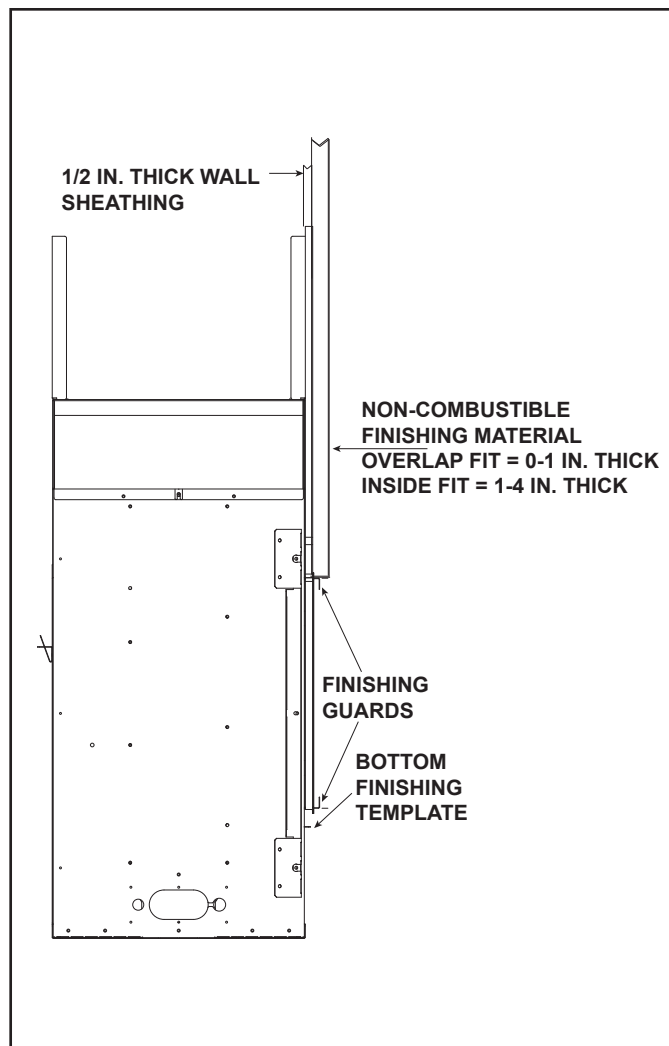
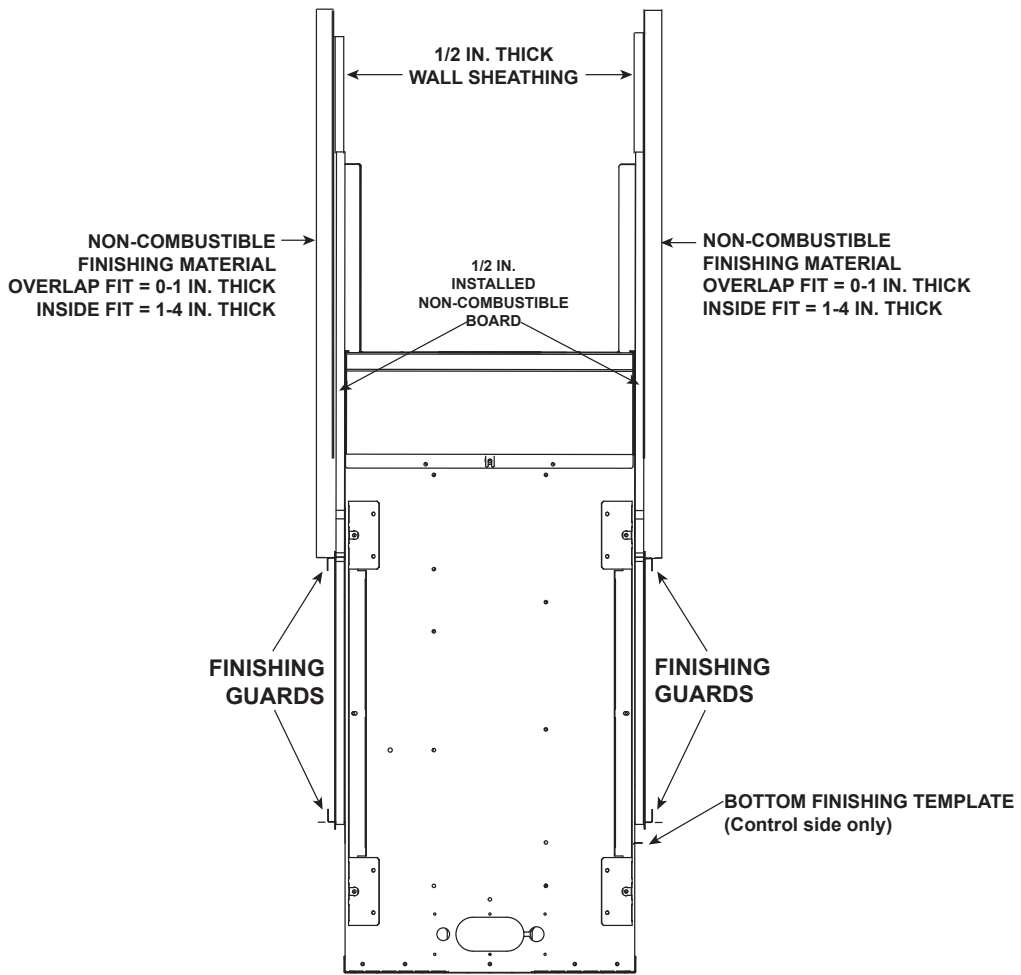

Figure 10.2 Finishing and Facing Materials - Single-Sided Models
Figure 10.3 Finishing Materials - See-Through Models
Decorative facing material thickness is measured from the face of the installed non-combustible board. See Figure 10.2 and Figure 10.3.
The fronts for this appliance are compatible with non-combustible materials. See Figure 10.2 and Figure 10.3.
Installation of finishing materials can be accomplished by either the “overlap” or “inside-fit” method, depending on what type of decorative barrier front is to be installed. See Figure 10.2 and 10.3. Overlap fit decorative barrier fronts include the Four Square and Illusion. The Clean Face Trim Front (CFT) can be either an inside fit or an overlap fit. See Table 1.
1. Remove bottom finishing template from bottom access panel. Verify that factory-installed finishing guards are installed to ensure finishing material does not extend into the fireplace opening. See Figure 10.2 and 10.3.
1. Remove bottom finishing template from bottom access panel. Verify that factory-installed finishing guards are installed to ensure finishing material does not extend into the fireplace opening. See Figures 10.2 and 10.3.